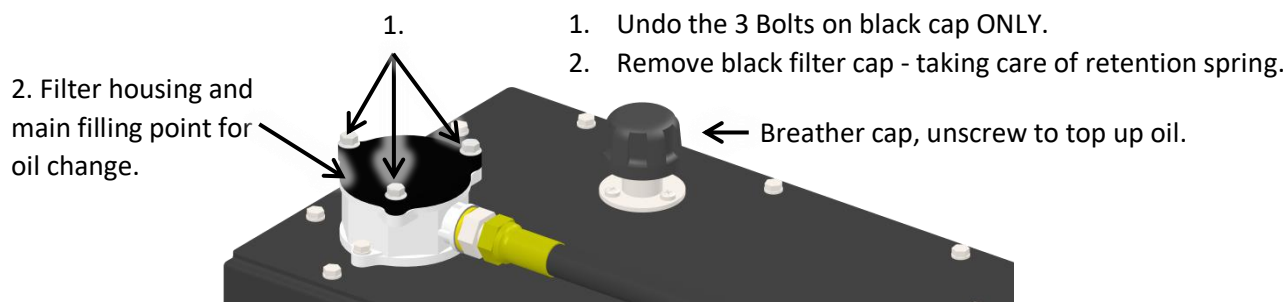

Figure 12: Changing the Hydraulic Oil Filter
- Undo the filter cap as shown in Figure 12.